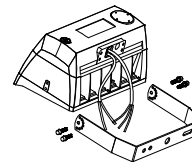

Figure 5
3. Flood Mounting (FM)
STEP 1: First install two big screws (FIGURE 5)